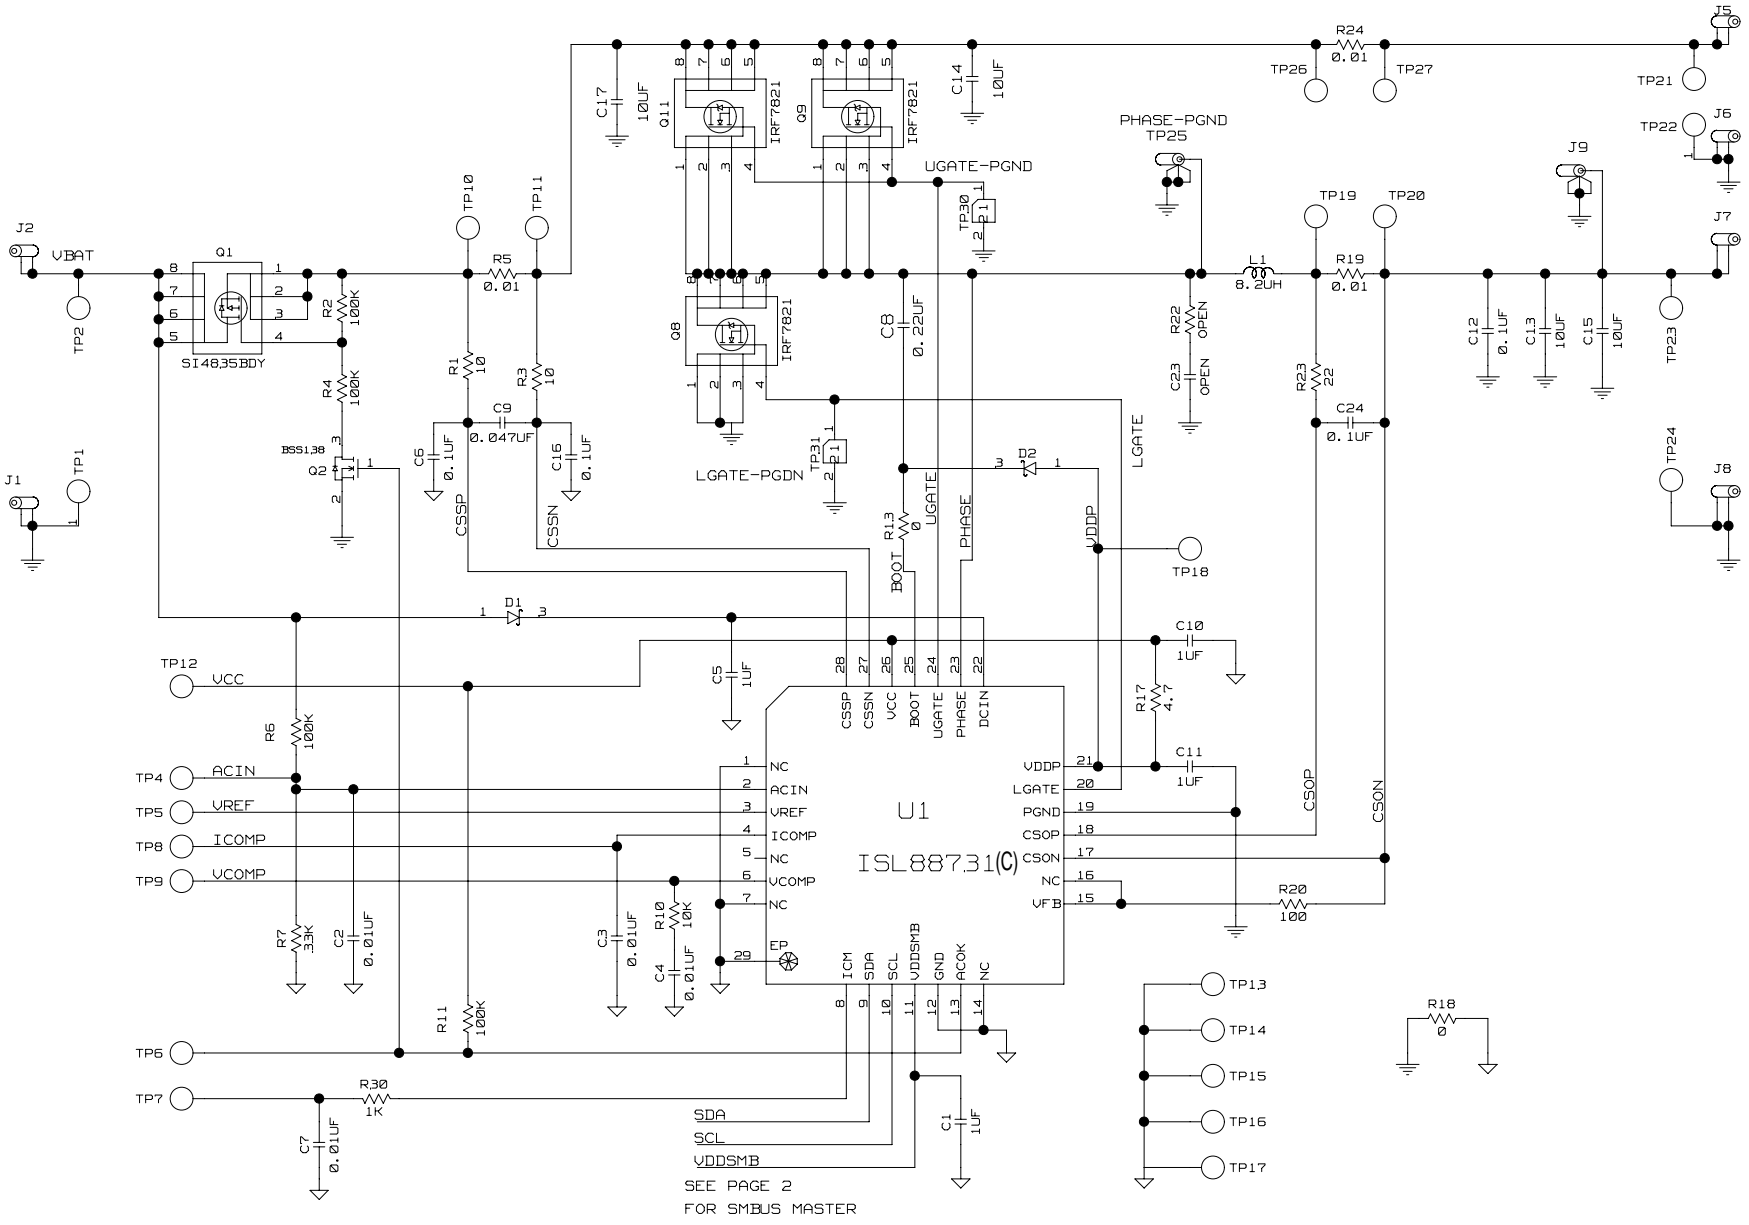

FIGURE 10. ISL88731(C)EVAL2Z SCHEMATIC
The ISL88731(C) is also disabled if the ACIN pin is below 3.2V. An Input voltage >13.1V will pull ACIN above 3.2V. The minimum input voltage can be adjusted on the evaluation board by changing R6 or R7 (see Figure 10).